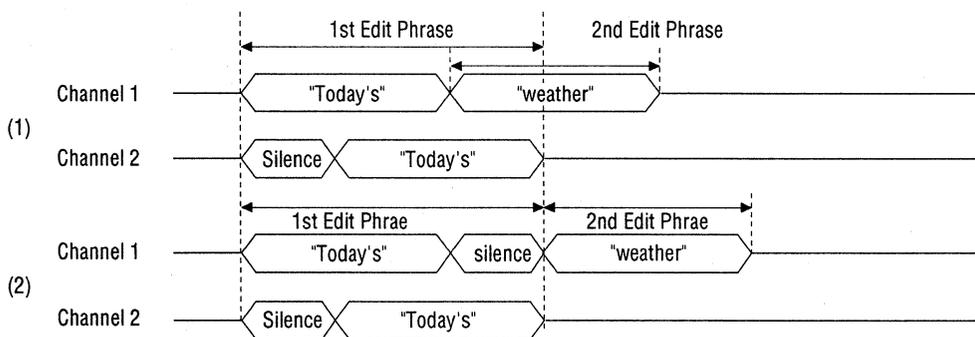

Figure 10.2 Example of Random Vocalization Timing
However, this occurs only when the channel setting of the 1st and 2nd edit phrase are the same, and when echo regeneration and channel 2 regeneration are not performed. For example, if the 1st edit phrase is echo regeneration, and the 2nd edit phrase channel 1 regeneration, as shown in Figure 10.2 (1), 2 edit phrases overlap.
To avoid this, insert silence to channel 1, as shown in Figure 10.2 (2), and set edit data ROM so that channels 1 and 2 end regeneration at the same time.